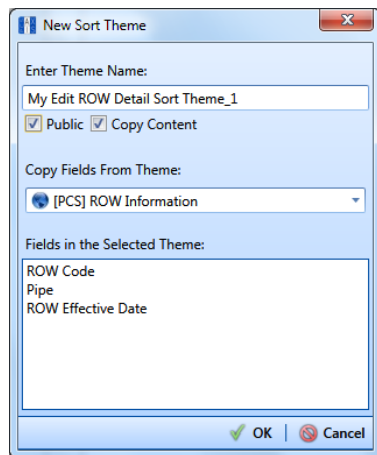

Figure 3-25. New Sort Layout
- 5 Click  **Add** to open the *New Sort Layout* dialog box (Figure 3-25).